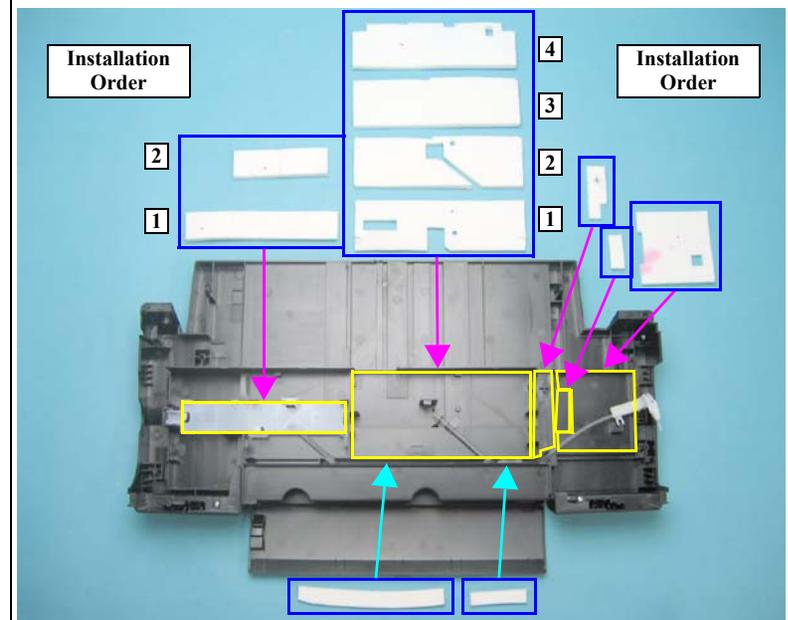

Figure 3-104. Installing the Waste Ink Pads
- Referring to Figure 3-104, correctly install the Waste Ink Pads.